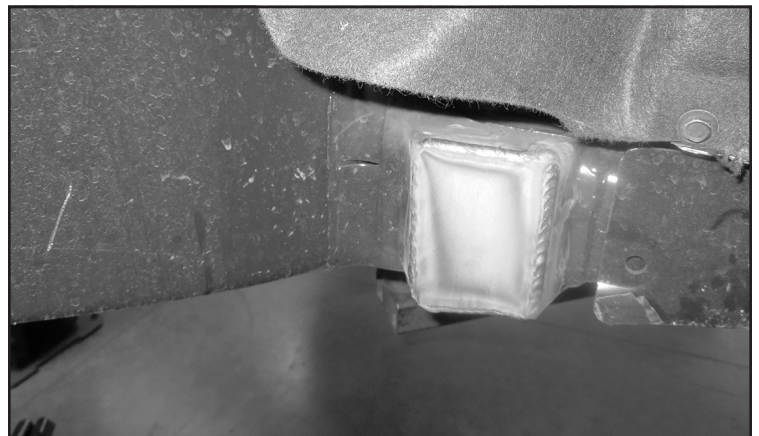

FIGURE 13 - STEP 17
17. Weld FT70319 (Weld plate) into the body mount. Allow to cool then paint the area. **SEE FIGURE 13**